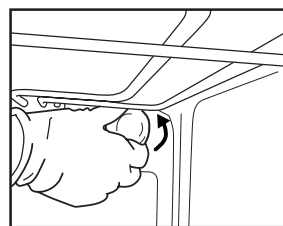

Fig. 8
2. Unscrew the lamp cover (fig. 8), replace the lamp (see note for lamp type) and screw the lamp cover back on.